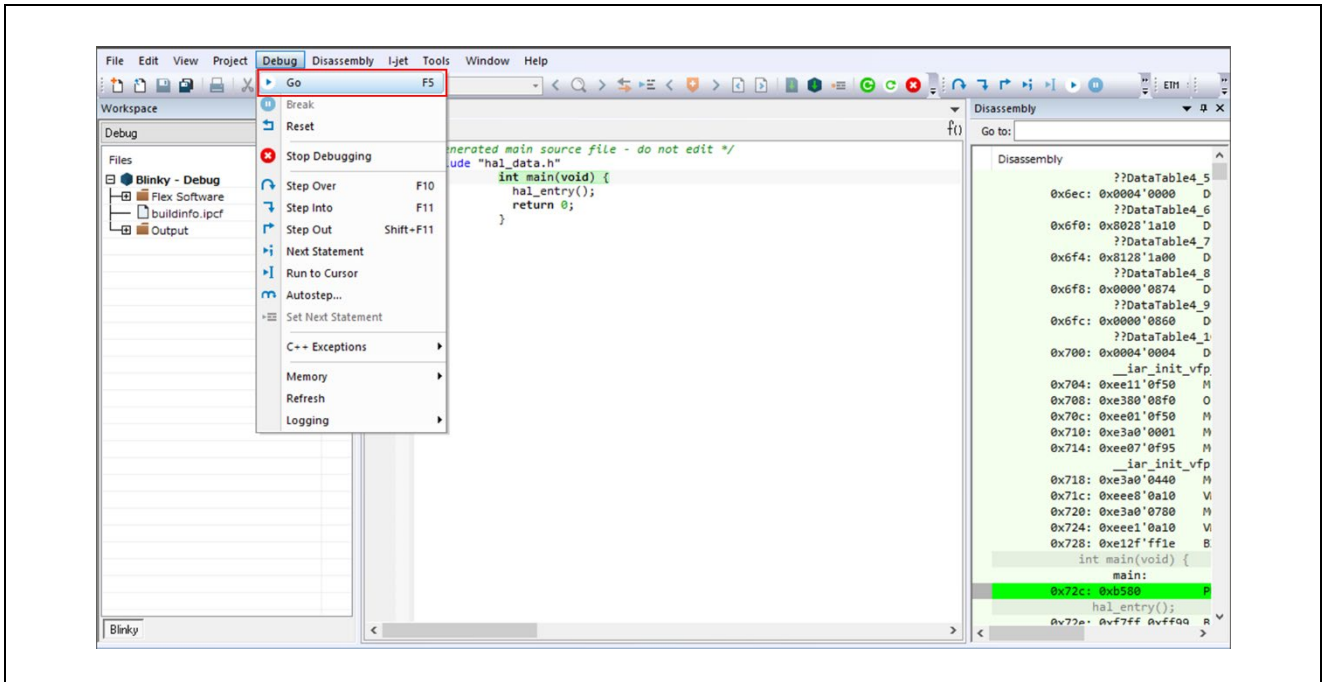

Figure 122. Go Button
5. Run the program of the primary project as shown in Figure 122 to copy the binaries of the secondary and subsequent projects to the internal RAM in the primary project. After the primary project reaches **hal\_entry** in **main.c**, another core is executed. If the LEDs are blinking, proceed to the next step.